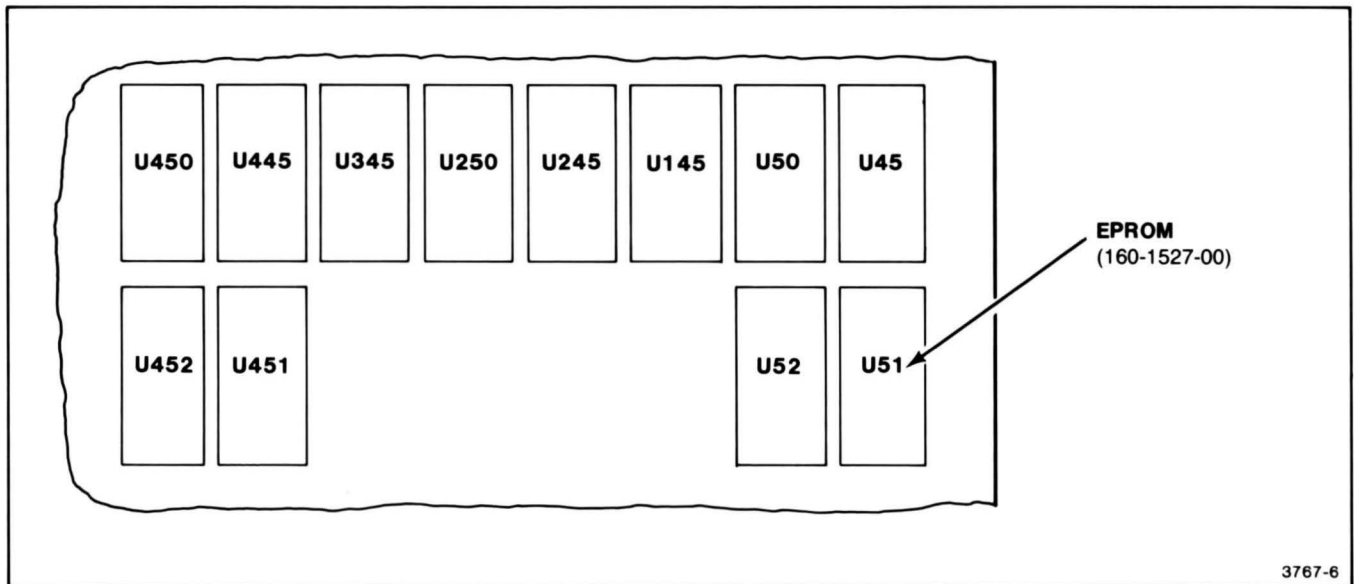

Figure J-7. EPROM Installation Details.
- If the plotter already contains a System Memory circuit board, install the EPROM (160-1527-00) in the socket of U51 (see Figure J-7). Ensure that the strap located next to U551 is set to the "1" position (the strap should be on the two square pins closest to U452). Then, proceed to the Final Assembly procedure.
2. **Remove** the ROMs from U45, U50, U145, U250, U345, U445, and U450 (see Figure J-7) and discard.
3. **Install** the EPROM (160-1527-00) in the socket of U51 (see Figure J-7). Ensure that the strap located next to U551 is set to the "1" position (the strap on the two square pins closest to U452).